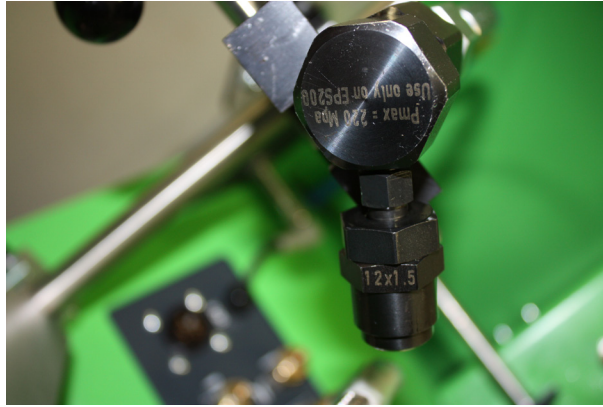

Figure 1
2. Install 12 x 1.5mm adapter to the high–pressure hose. (Figure 1)